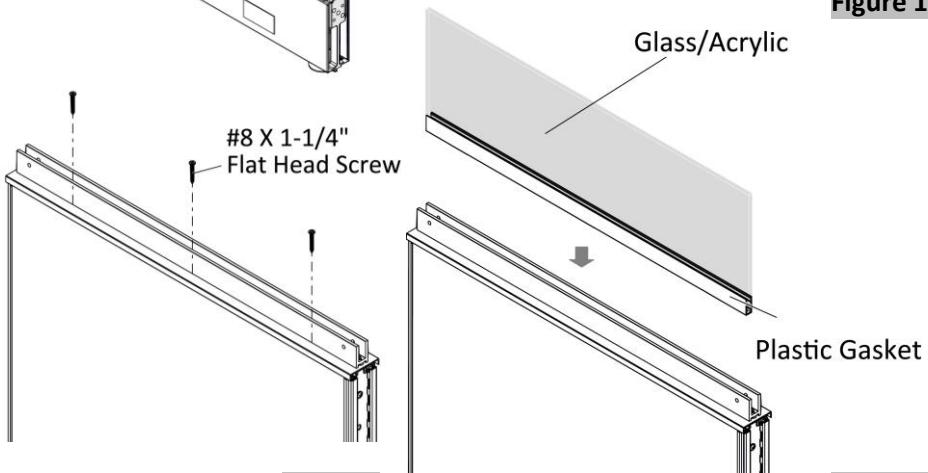

Figure 2
3. Securely fasten the base extrusion into the pre-drilled holes of the top trim with #8 X 1-1/4", Flat Head Screws, (Figure 2).